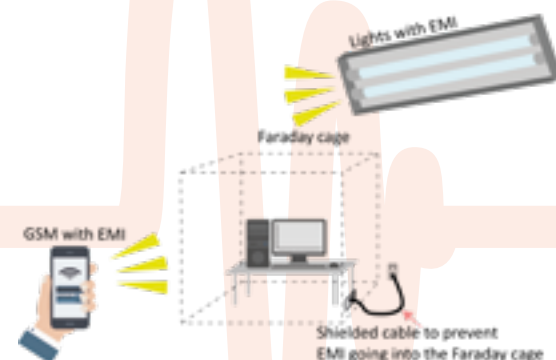

Figure 63: Cables entering a Faraday cage can carry undesirable signals
- 63 Cables entering a Faraday cage can carry undesirable signals** into and out of the housing. When these cables are shielded, the cable shield should be 360 degrees around the cable, and be connected to the housing using a gland or cable entry plate. Entry shielding is also available in watertight and flame retardant versions. Power lines and signal lines should be filtered when it is not certain what frequencies are on the line. (Fig. 63)